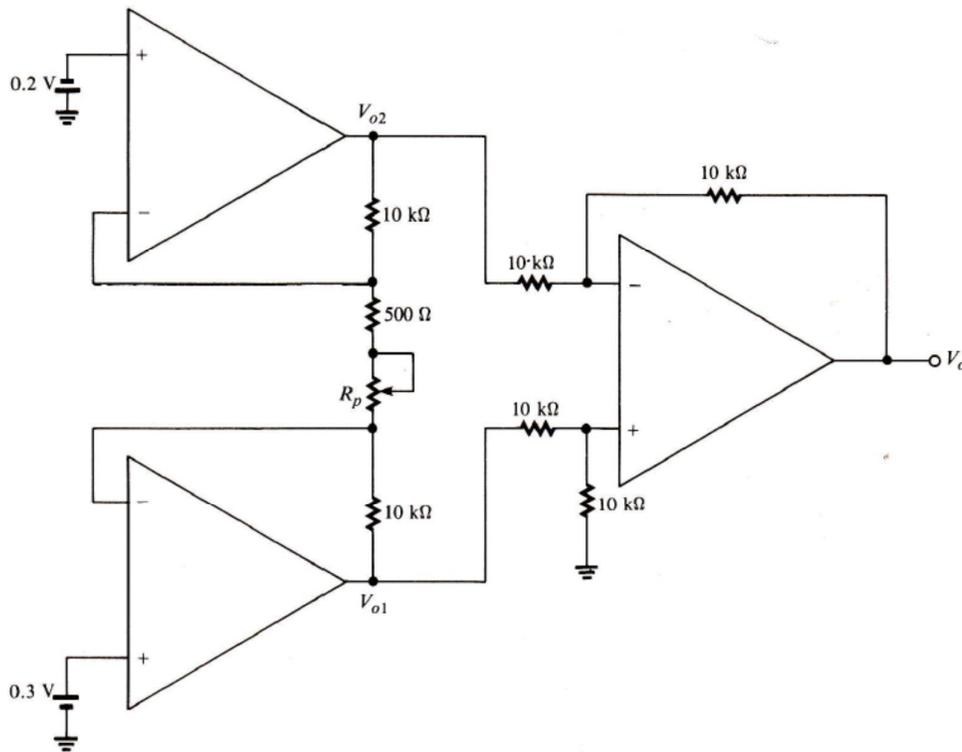

Fig. 2-29
- (a) Assuming ideal amplifiers, find the minimum and maximum output voltage  $V_o$ , that is,  $V_o(\min)$  and  $V_o(\max)$ , of the instrumentation amplifier shown in Fig. 2-29 when the  $10\text{ k}\Omega$  potentiometer  $R_p$  is adjusted through its entire range.